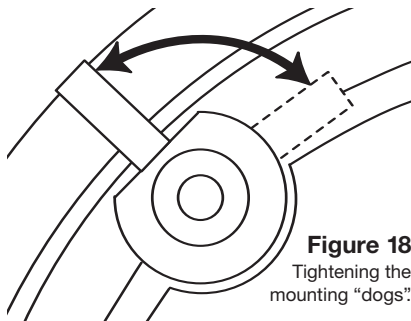

Figure 18
7. There are four clamps or mounting "dogs" which hold each speaker in place. The dogs are tightened via four front-baffle screws. To install the speaker, first rotate the dogs inward. Insert the speaker into the cutout and tighten the dogs by turning the screws clockwise. **DO NOT OVER TIGHTEN THESE SCREWS.** Over-tightening the clamps may make the grille difficult to install. **(See Figure 18).**